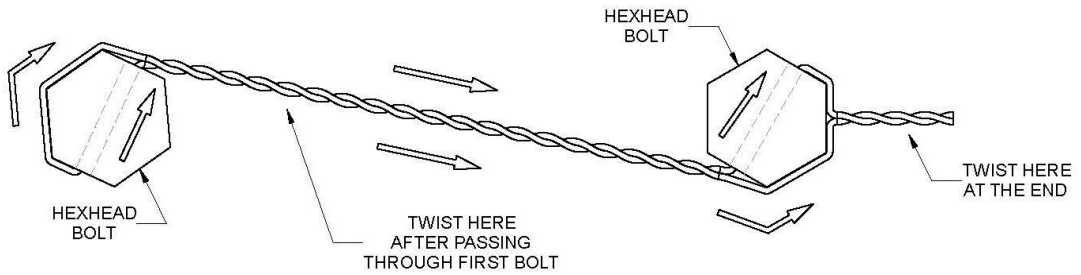

Figure 2
- ▶ Tighten all insert retainer screws. Then tighten the riser setting plate bolts leaving approximately 1/16 inch play between the riser slip setting ring and its corresponding insert retainer plate as provided by the bushing. (Important: all setting plate bolts and insert retainer screws retaining the slip setting ring and insert retainers must be secured with safety wire to keep them from backing out. Stainless Steel 3/32” safety wire is (recommended). (See Figure 2)